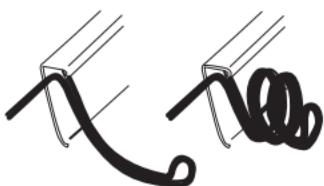

Figure 26
**NOTE:** If there is excess cable that needs to be gathered at one location (as shown in the illustration), dress the cable routed from both directions so that a single loop is left extending from the storage location. Doubling the cable up from this point, form the cable into a coil. Storing excess cable using this method can reduce electronic interference (Figure 26).